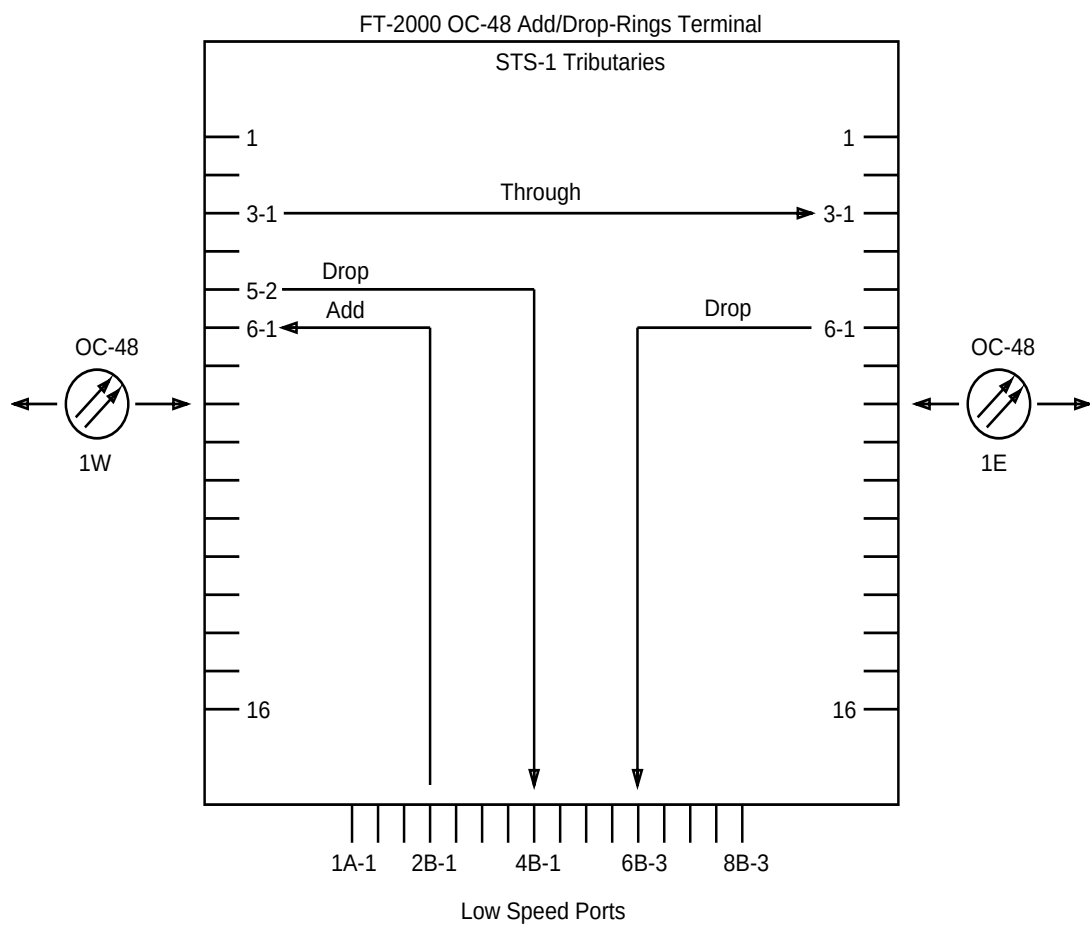

Figure 8-8. STS-1 1-Way Cross-Connections at an FT-2000 OC-48 Add/Drop-Rings Terminal
- **Add cross-connections:** Add cross-connections are made from any service low-speed port to any outgoing STS-1 tributary of OC-48 high-speed line 1E or 1W. For example, Figure 8-8 shows service low-speed port 1 of slot 2B (2B-1) cross-connected to outgoing service STS-1 tributary 1 of STS-3 tributary 6 (6-1) on OC-48 high-speed line 1W.
- **Drop cross-connections:** Drop cross-connections are made from any incoming STS-1 tributary of OC-48 high-speed line 1E or 1W to any service low-speed port. For example, Figure 8-8 shows incoming service STS-1 tributary 2 of STS-3 tributary 5 (5-2) on OC-48 high-speed line 1W cross-connected to service low-speed port 1 of slot 4B (4B-1).
- **Through cross-connections:** Through cross-connections are made from any incoming STS-1 tributary of OC-48 high-speed line 1E or 1W to the same-numbered outgoing STS-1 tributary of the other OC-48 high-speed line. For example, Figure 8-8 shows incoming service STS-1 tributary 1 of STS-3 tributary 3 (3-1) on OC-48 high-speed line 1W cross-connected to outgoing service STS-1 tributary 1 of STS-3 tributary (3-1) on OC-48 high-speed line 1E.
When an STS-1 tributary of OC-48 high-speed line 1E or 1W is cross-connected to a service low-speed port, another service low-speed port may be cross-connected to the same-numbered STS-1 tributary of the other OC-48 high-speed line. For example, Figure 8-8 shows service low-speed port 1 of slot 2B cross-connected to service STS-1 tributary 1 of STS-3 tributary 6 (6-1) on OC-48 high-speed line 1W, and service STS-1 tributary 1 of STS-3 tributary 6 (6-1) on OC-48 high-speed line 1E cross-connected to service low-speed port 3 of slot 6B. This is consistent with the 2-fiber bidirectional, line-switched ring standard.